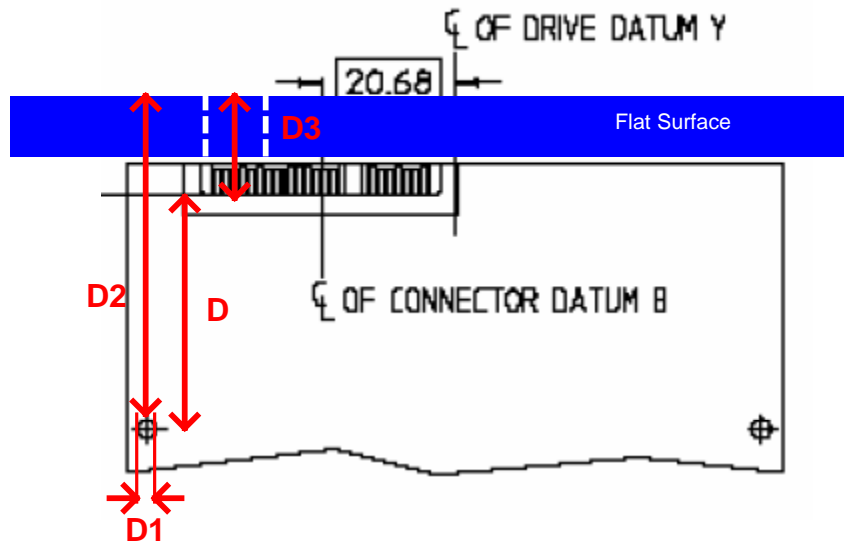

Figure 13
1. Using the inside measurement jaw of the calipers measure the width of the mounting hole as shown in Figure 13. Record the value of  $D1$ .
2. Using the outside measurement jaw of the calipers measure the distance from the edge of the mounting hole to the face of the flat surface as shown in Figure 13. Record the value of  $D2$ .
3. Using the depth measurement of the calipers measure the distance from the face of the flat surface, through a hole in the flat surface, to the base of the device tongue plug as shown in Figure 13. Record this value as  $D3$ .